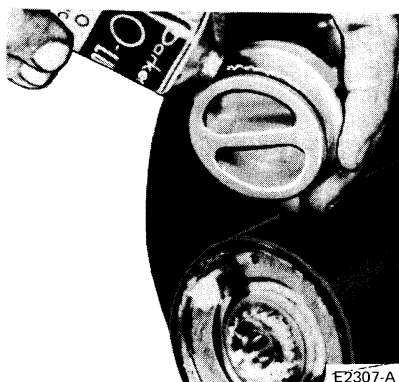

FIG. 14 Lubrication Areas
8. Apply a small amount of Lubriplate grease on the ears of the cam (Fig. 14).
9. Apply a small amount of Parker O-ring lube in groove of actuating knob before assembling outer O-ring (Fig. 14).